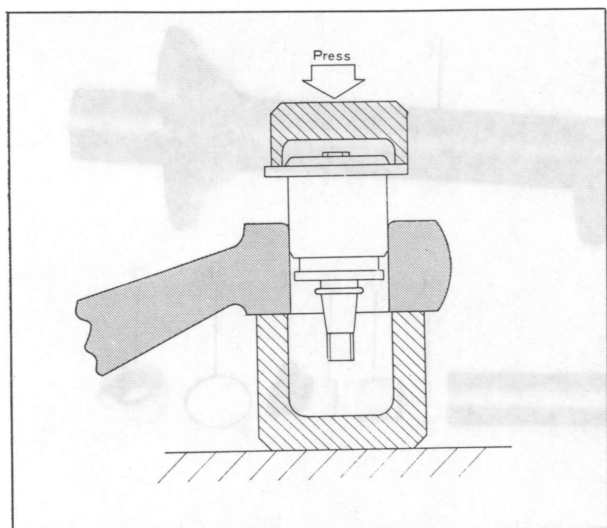

Fig. 13-9 Installing ball joint
6. Press fit the ball joint to the suspension arm with the **ball joint remover and installer** (49 0259 860). Refer Fig. 13-9.